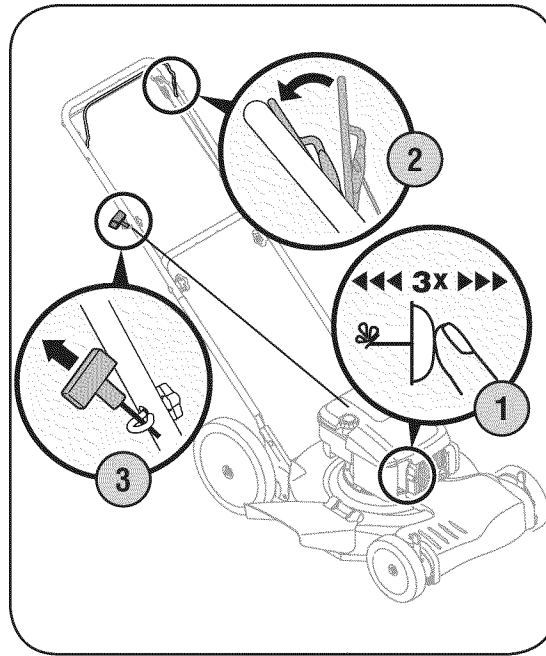

Figure 4-2
1. Push primer (if equipped) three times. Wait about two seconds between each push. See Figure 4-2. In temperature around 55° F or below, prime five times. Do not prime to restart a warm engine.
3. Holding these two handles together firmly, grasp recoil starter handle and pull rope out with a rapid, continuous, full arm stroke. See Figure 4-2. Keeping a firm grip on the starter handle, let the rope rewind slowly. Repeat until engine cranks. Let the rope rewind each time slowly.